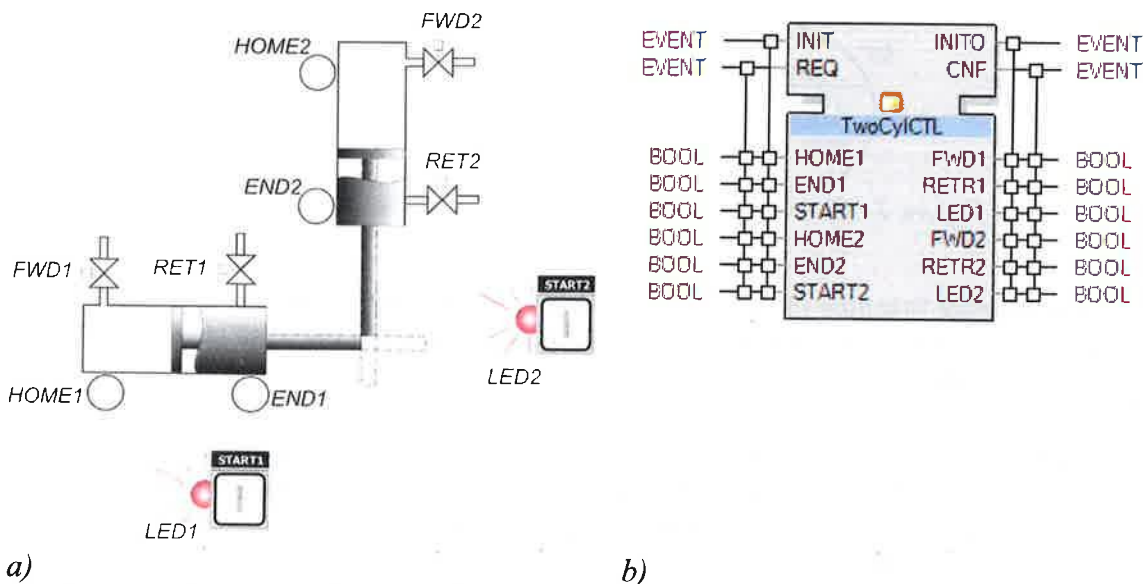

Figure 1. a) System of two pneumatic cylinders. b) Interface of its controller function block.
5. Two double-acting cylinders are composed into a system as shown in Figure 1, a such that if both cylinders are extended, they can collide in the middle.
The initial position of the system is as shown in Figure 1, a, and both buttons are enabled, indicated by the lamps lighting behind them. Upon pressing of either button, both cylinders shall retract to the home positions and be ready to further requests (i.e., with the buttons enabled).
- b) Implement the state machine as an ECC of the basic function block, whose interface is shown in Figure 1, b. [4p]